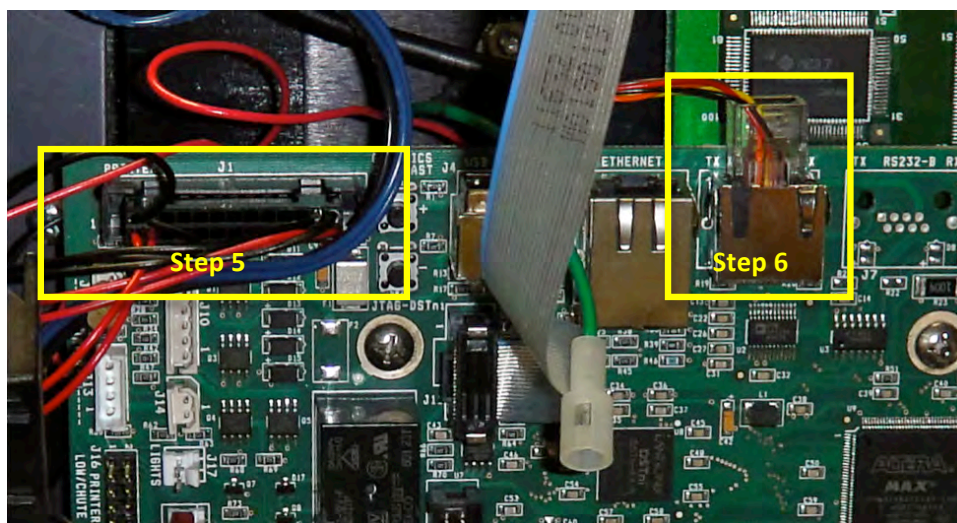

Figure 8: Printer Data & Power Cable Connections to PV343 Board
board J1/Printer socket. See Figure 8 above.
Step 7. Route the power cable through the cable clamp and connect the power cable to the PV343 board J6/RS232-A socket. See Figure 8 above.